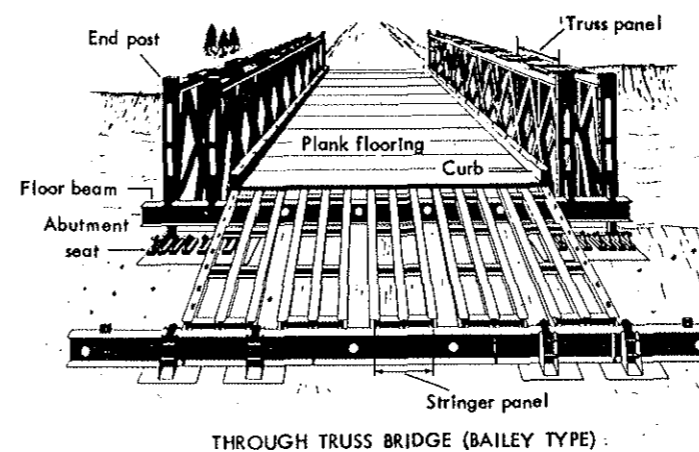

Figure 85.
b. The truss girder (figs. 85 and 86)—normally called